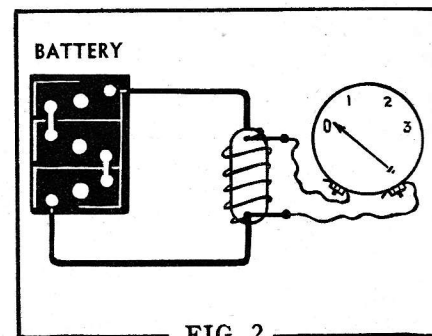

FIG. 2
all starts. As the crank twists forward, the end in the steering connecting rod tries to pull the rod forward. If the rod stands pat, You'll see the crank pivot and swing the tie rod and wheels to the left (Fig. 2). Finally the jeep stops—over in the left lane somewhere.
*Fig. 2. Unless the steering wheel is allowed some play when you come to a hot stop, the bell crank goes into action—like we've shown in gray—and pivots the wheels to the left.*
Although our trusty little jeep has only four cylinders, when each of them is firing properly—with just the right mixture—the result is sewing machine smoothness. However if just one of those cylinders isn't being fed properly the engine will bounce around like a jitterbug with the hives. Now one thing that can cause this poor idle is air leaks at the idle jet plug, (Fig. 2). This plug then must seat tightly on a good gasket to prevent them.
There are two air bleed holes (Fig. 2) and these holes have a habit of
Let's borrow the resistance unit off of an old voltage regulator and connect it to a battery as shown in Fig. 2. As the current passes through the resistance the voltage will drop. By connecting the test voltmeter as shown, we are able to measure the amount of voltage drop. In other words, if the resistance unit represented a bad connection, we would be measuring the voltage drop of the connection.